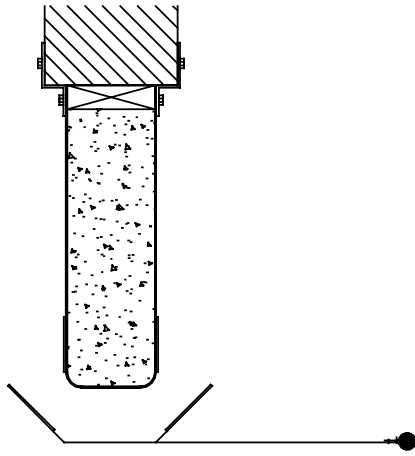

FIGURE 2
2. Make sure that the hook and loop flap on the outside of the side curtain completely covers the hook and loop on the side frame. (See Figure 2)